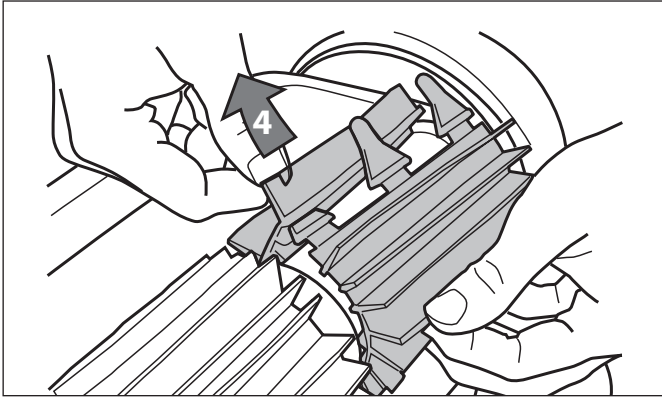

Figure 29. Pull Tabs Through Each Slot
- Thread each tab into the slot provided and gently feed it through until the heel comes out at the other side of the slot (Figure 29).